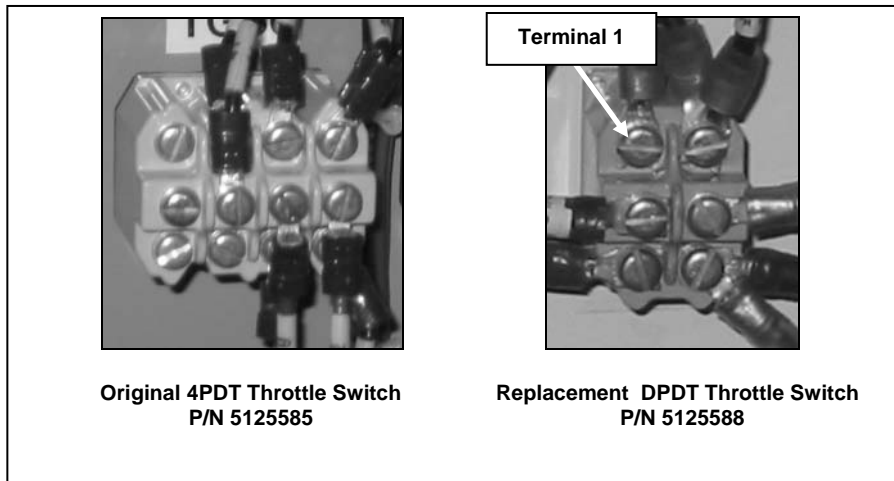

Figure 3
4. Install the replacement Throttle Switch (S2) in the mounting hole with Terminal 1 on the top left as shown in Figure 3.